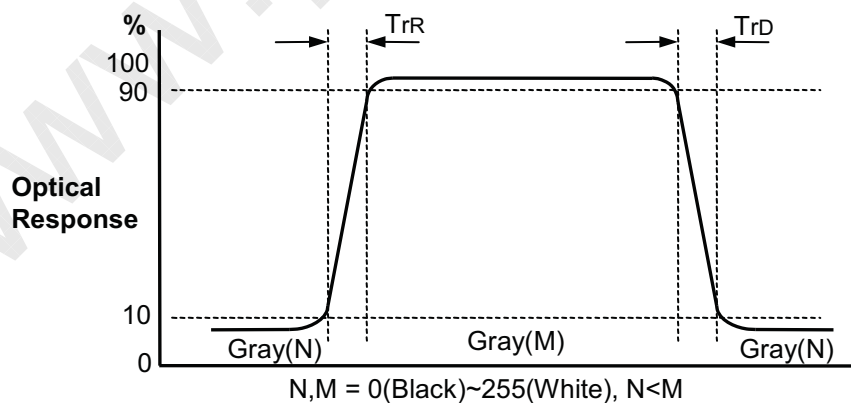

FIG. 3 Response Time
- Response time is the time required for the display to transition from G(N) to G(M) (Rise Time,  $Tr_R$ ) and from G(M) to G(N) (Decay Time,  $Tr_D$ ). For additional information see the FIG. 3. ( $N < M$ )